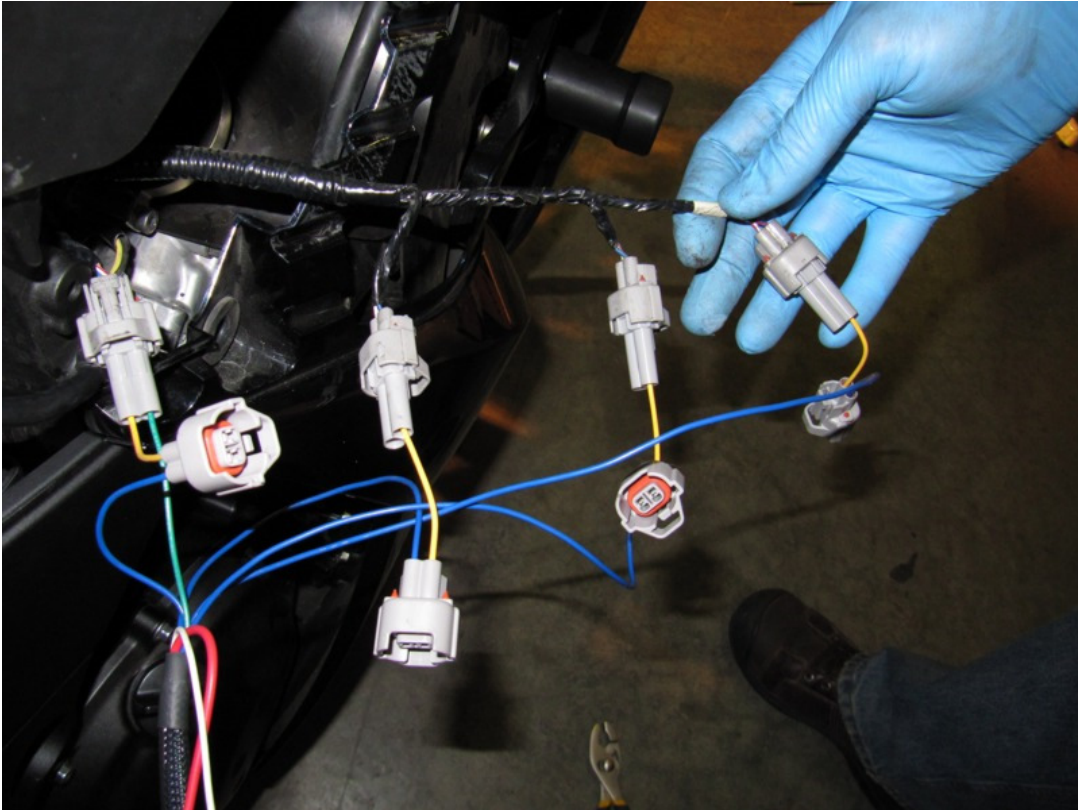

Figure 1 : Harness partially connected
3. Install the wiring harness by making connections as shown in Figures 1 and 2. Each fuel injector will have a male and female pair to plug into. **DO NOT** interchange fuel injectors and fuel connectors. The easiest way to avoid this is by connecting the harness to the fuel injector's **one-at-a-time**.